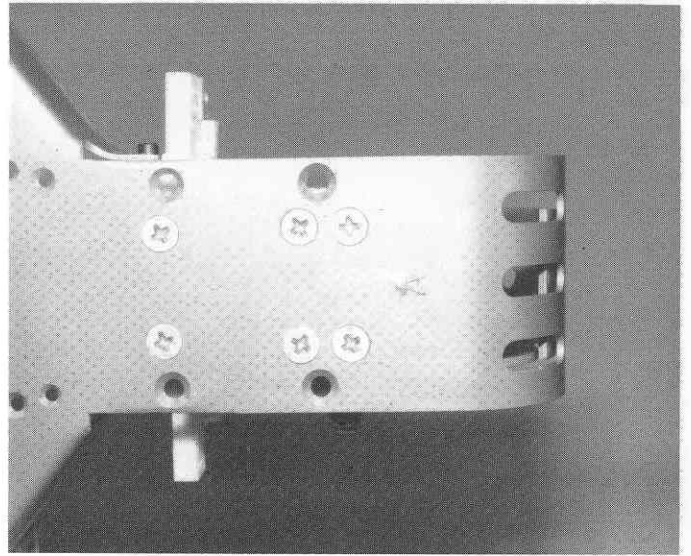

Fig. 103
□ **Fig. 103** These 6 screws should be loose yet.